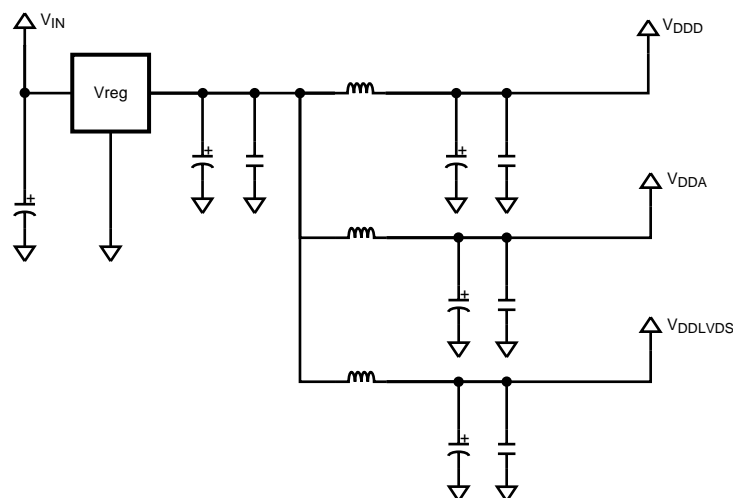

Figure 1. Recommended Setup
- (1) Static voltage levels on VDDD must be at the same voltage or slightly higher than VDDLVS or VDDA. Therefore, driving all three power supplies from a common linear voltage regulator is recommended. Please see Figure 1.